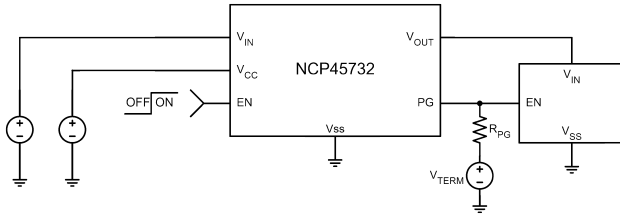

Figure 27. Guaranteed-by-Design Power Sequencing Example
The NCP45732 device has a power good output (PG) that can be used to indicate when the gate of the MOSFET is fully charged. The PG pin is an active-high, open-drain output that requires an external pull up resistor, R_{PG} , greater than or equal to 100 k Ω to an external voltage source, V_{TERM} , that is compatible with input levels of all devices connected to this pin, as shown in Figure 27.
The power good output can be used as the enable signal for other active-high devices in the system, as shown in Figure 27. This allows for guaranteed by design power sequencing and reduces the number of enable signals needed from the system controller. If the power good feature is not used in the application, the PG pin should be tied to GND.